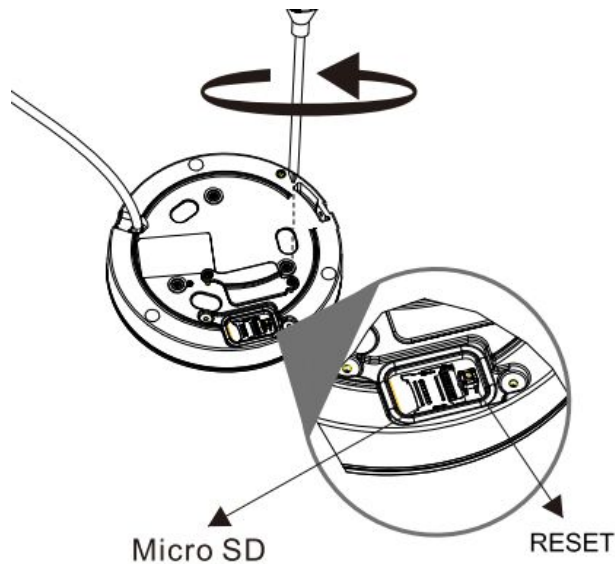

Figure 2-5
Step 1 Turn over the camera lens body. See Figure 2-5 for Cover location. Remove the cover. Skip to Step 3 if only installing SD Card.
Step 2 Slightly press the **RESET** button for 10-30 seconds to complete the reset function. See Figure 2-5. The camera will reboot when the reset process is complete.
Step 3 (If installing SD Card) Adjust the Micro SD Card to a proper direction shown in Figure 2-5.